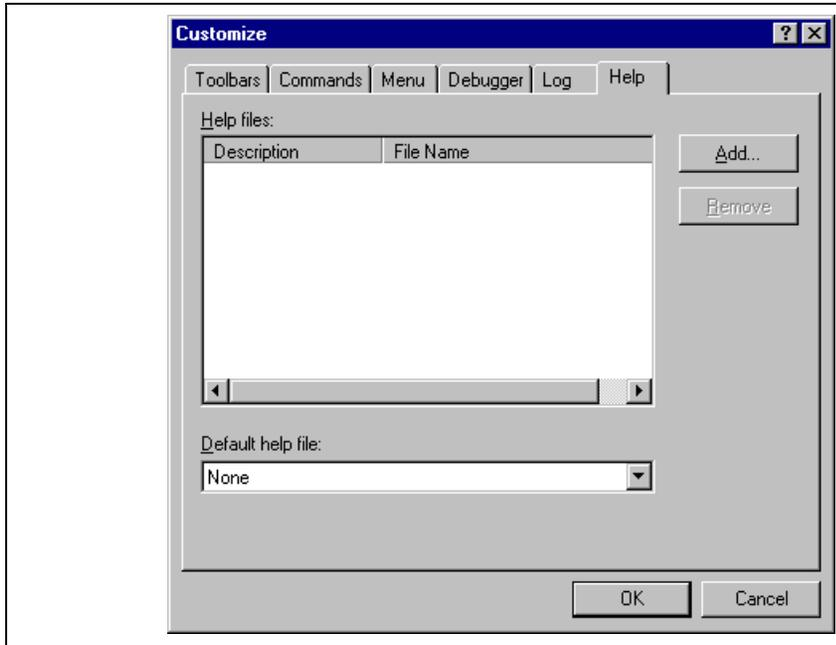

Figure 6.7: Customize Dialog Help Tab
1. Select [Tools->Customize...]. The dialog shown in * MERGEFORMAT figure 6.7 will be displayed. Select the “Help” tab (see * MERGEFORMAT figure 6.7).